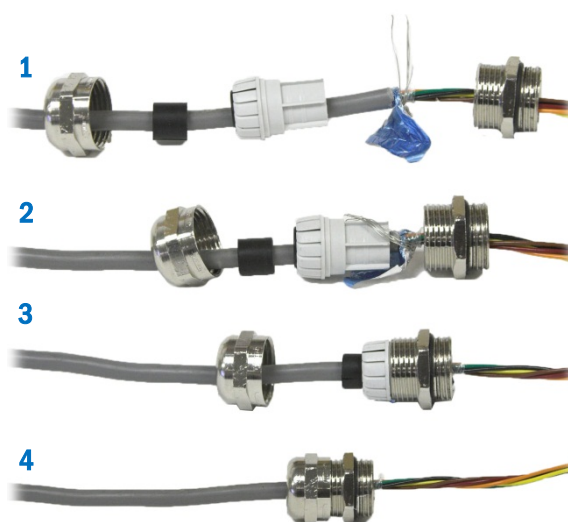

Figure A-28: Cable Shield Grounding
5. Cable shielding should be grounded to the IND360's enclosure by spreading the shield wires as shown as step 1 in Figure A-28, then folding them back over the plastic component of the cable gland (step 2) before pressing it into the threaded body(step 3).